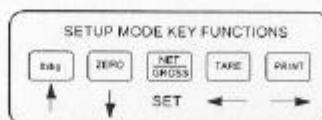

Figure 6-1: Setup Menu Key Assignments
3. Use the four directional keys (shown in Figure 6-1 below) to adjust the displayed value to the actual test weight value. Increase the flashing digit by pressing the lb/kg key. Decrease the flashing digit by pressing the ZERO key. Pressing the PRINT key or the TARE key will change the position of the flashing digit.
2. The display will momentarily show "CAL 0", followed by a flashing zero. Use the four directional keys (shown in Figure 6-1) to adjust the displayed value to the zero calibration value.
2. The display will momentarily show "CAL 1", followed by a flashing zero. Use the four directional keys (shown in Figure 6-1) to adjust the displayed value to the span calibration value.